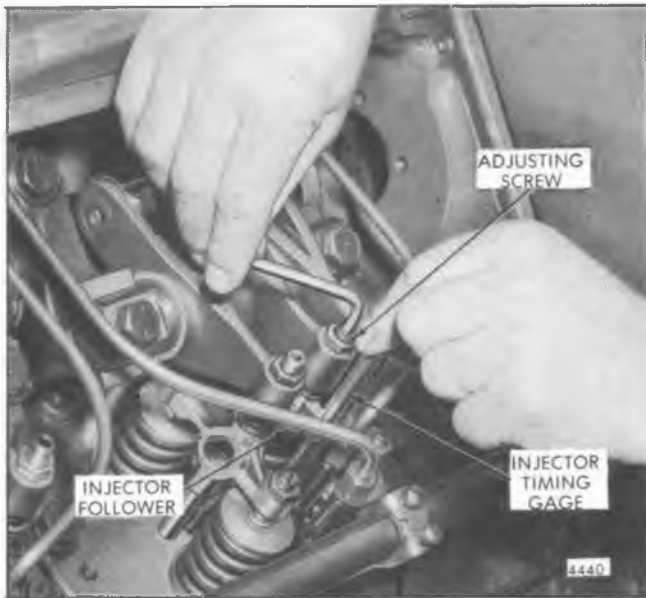

Fig. 1 – Timing Fuel Injector
3. Place the small end of the injector timing gage (refer to Table 1 for the correct timing gage) in the hole provided in the top of the injector body with the flat of the gage toward the injector follower (Fig. 1).